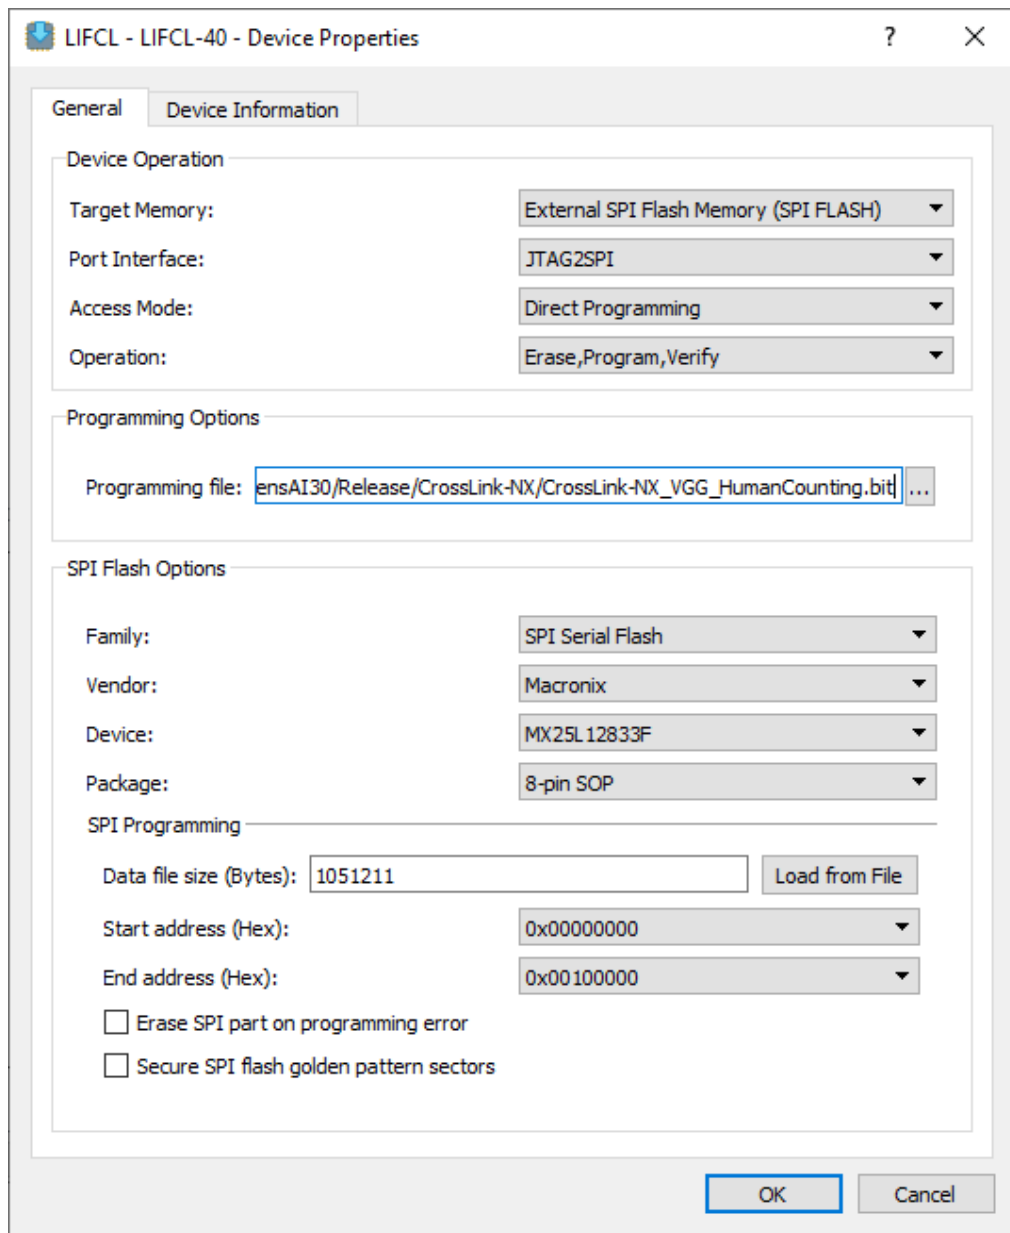

Figure 4.4. Radiant Programmer – Selecting Device Properties Options for CrossLink-NX Flashing
- b. For SPI Flash Options, make the selections as shown in Figure 4.4.